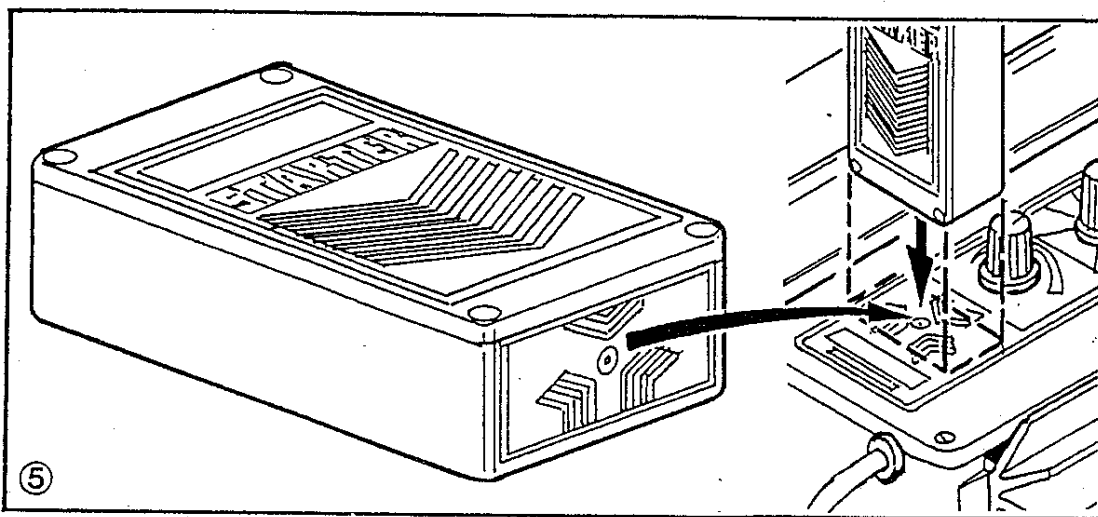

Fig 7 - The Starter Position
5. Place the Starter in position on the ORBITER Control Unit as shown in Fig 7. Note the alignment of the two symbols.